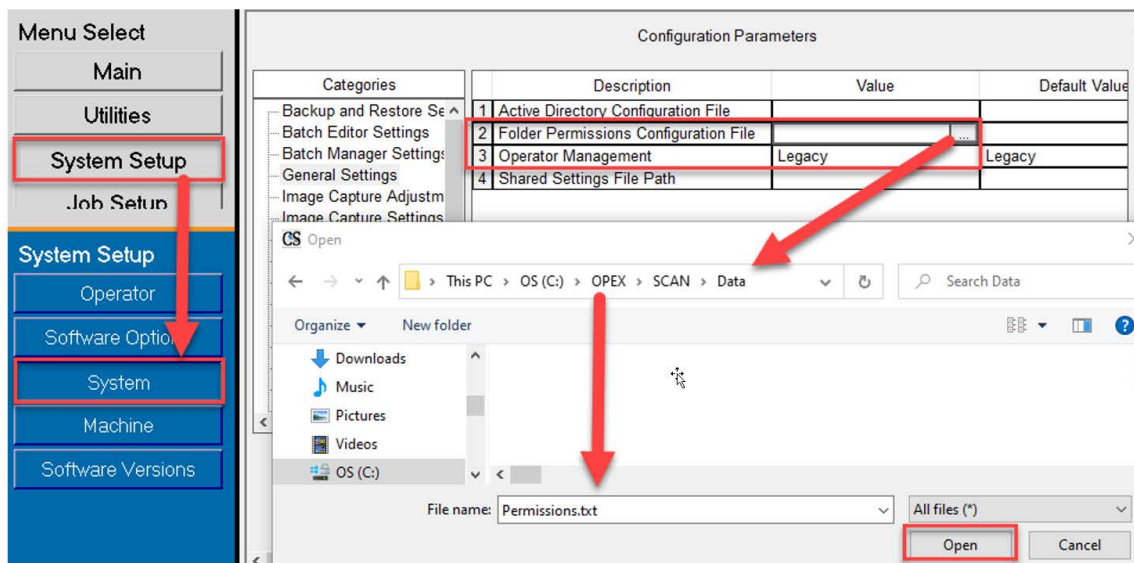

Figure 3-41: Create Permissions File
- Navigate to **System Setup > System > General Settings > Folder Permissions Configuration File** (Figure 3-41).